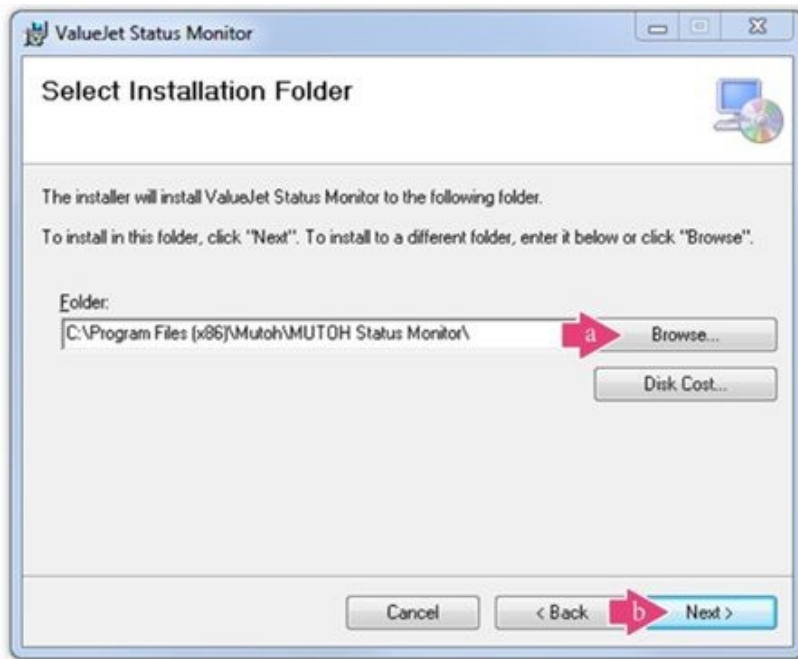

Figure 39
26. The ValueJet Status Monitor installer will install in a folder on your computer. You may assign a specific folder location by selecting **Browse (a)** or select **Next (b)** to use the default assigned folder location. See Figure 39.